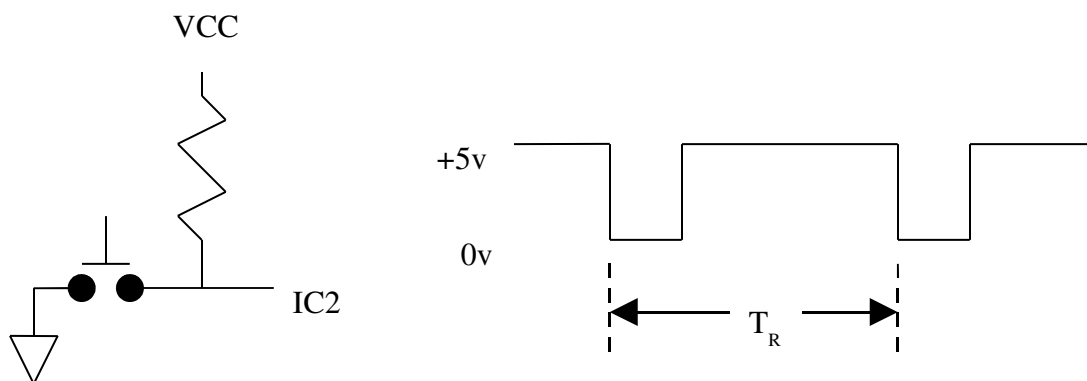

Figure 1. Circuit to measure speed of button pushing
The right part of Figure 1 is what the signal to IC2 will look like if you push the pushbutton twice.
4. Add to your program code to measure the number of timer ticks T_R between the two falling edges of the signal in Figure 1. Set the prescaler so you unambiguously measure time difference of at least 250 ns.